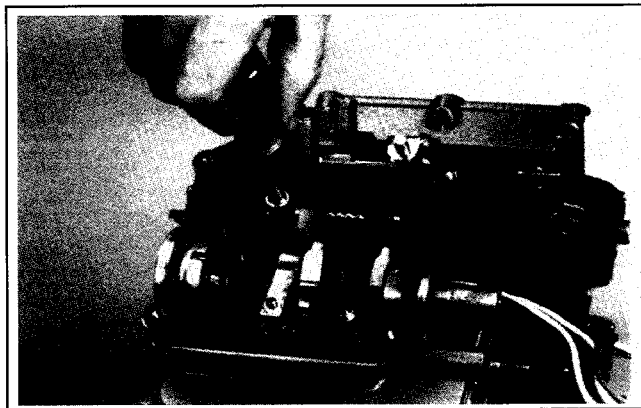

Figure 9-26. Removing Rocker Arm Shaft Screws.
4. Remove the two hex. flange screws from the rocker arm shaft. See Figure 9-26.
7. Remove the two hex. flange screws from the rocker arm shaft. See Figure 9-26.